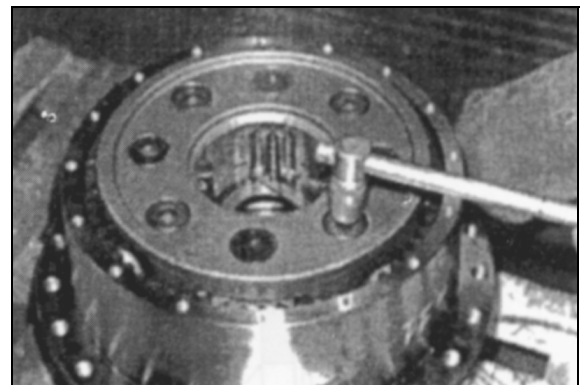

Figure 85
23. Remove bolts (4, M 30 x 150) from third planetary gear assembly. Figure 85.